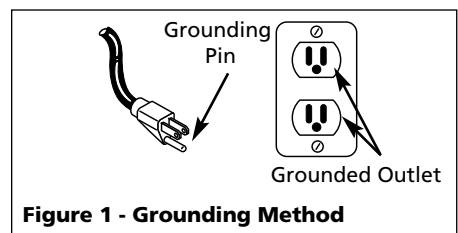

Figure 1 - Grounding Method
1. This product is for use on a nominal 120 volt circuit and has a grounding plug that looks like the plug illustrated in Figure 1. Make sure the product is connected to an outlet having the same configuration as the plug. This product must be grounded. In the event of an electrical short circuit, grounding reduces risk of electrical shock by providing an escape wire for electric current. This product is equipped with a cord having a grounding wire with an appropriate grounding plug. Plug must be plugged into an outlet that is properly installed and grounded in accordance with all local codes and ordinances.